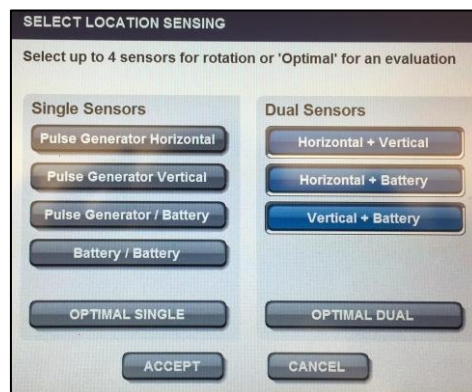

Figure 16: Select Location Sensing dialog box
6. Select the system's sensing configuration by selecting a LOCATION SENSING CHANNEL from the Select Location Sensing dialog box (Figure 16). The configuration may be selected from a single sensor or from dual sensor pairs. These pairs represent combinations of sensing electrodes on the exterior of the Transmitter and Battery. Up to four selections can be made and can be mixed between single and dual sensors. The system will dynamically rotate the use of these sensors. The rotation occurs during operation at times when the system determines that sensing is inconsistently targeting the Electrode. Select one to four buttons between the Single and Dual columns. Alternatively, the [OPTIMAL SINGLE] or [OPTIMAL DUAL] selections are an automated feature which the system uses to self-select a sensing configuration. Select [ACCEPT] or [CANCEL] to close the dialog box.